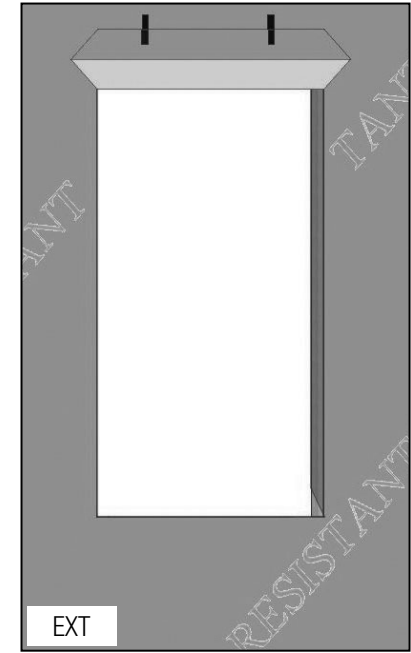

FIG. 5
- I) From the exterior, cut the top of the WRB as shown to form a flap. (Fig. 5)
- J) Temporarily tape this top flap up. (Fig. 5)